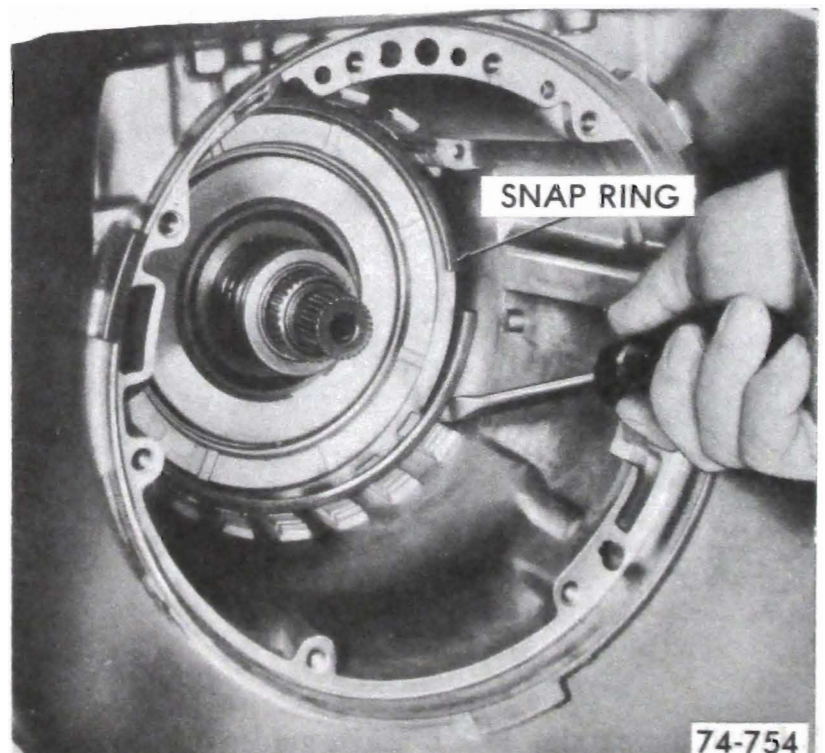

Figure 76-250
10. Install center support to case retaining snap ring with bevel side up, flat side against center support, and locating gap adjacent to band anchor pin. Make certain ring is properly seated in case. See Figure 76-250.